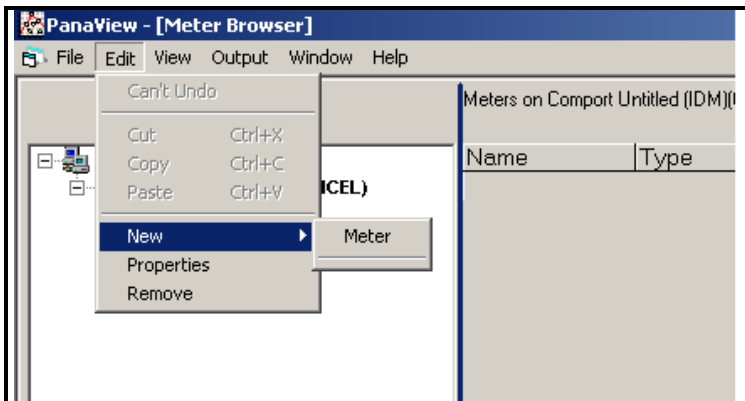

Figure 4: “New” Option in the “Edit” Menu
2. Click on the “*New*” option in the “*Edit*” menu (see Figure 4 below).